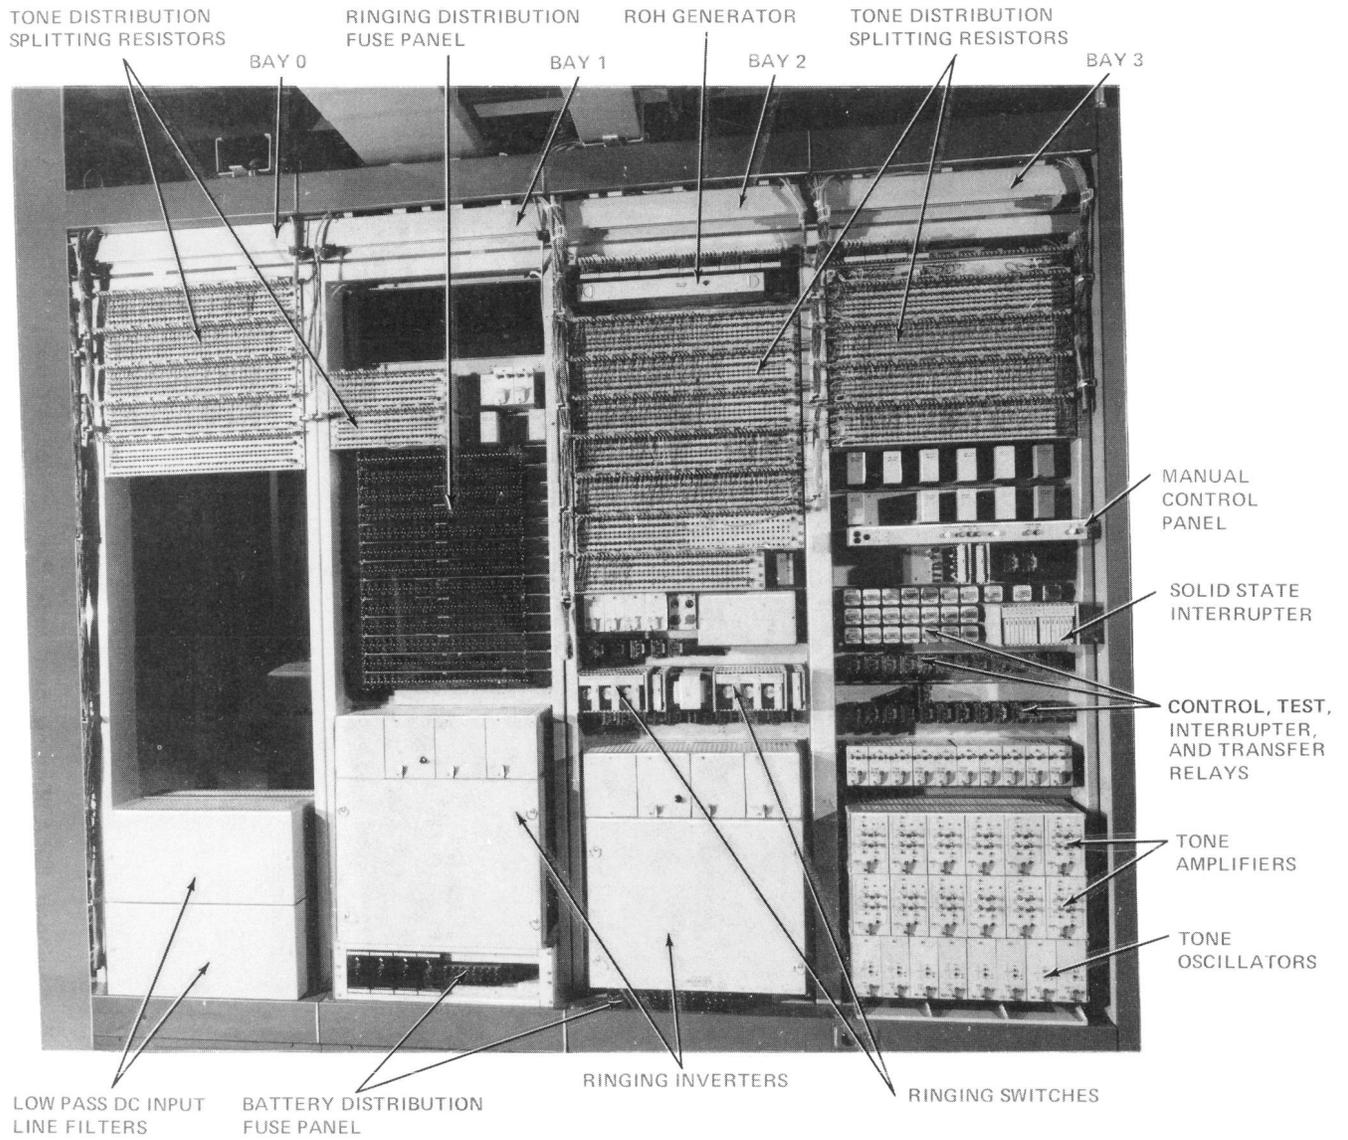

Fig. 1—Fully Equipped 808A Ringing and Tone Power Plant (AC-DC Office)
2.02 AC-DC Office: This office requires a double bay and two single bays located to the left of the double bay in the lineup (see Fig. 1).
2.04 The equipment which comprises the 808A ringing and tone plant is as follows (refer to Fig. 1 and 2):
3.09 This circuit contains the ringing switches (see Fig. 1) which receive timing signals from the interrupter circuit. The timing signals are used to drive the ringing switches which produce the actual CODE 1 GEN 1 BR1, BR2, and BR3 interrupted ringing.